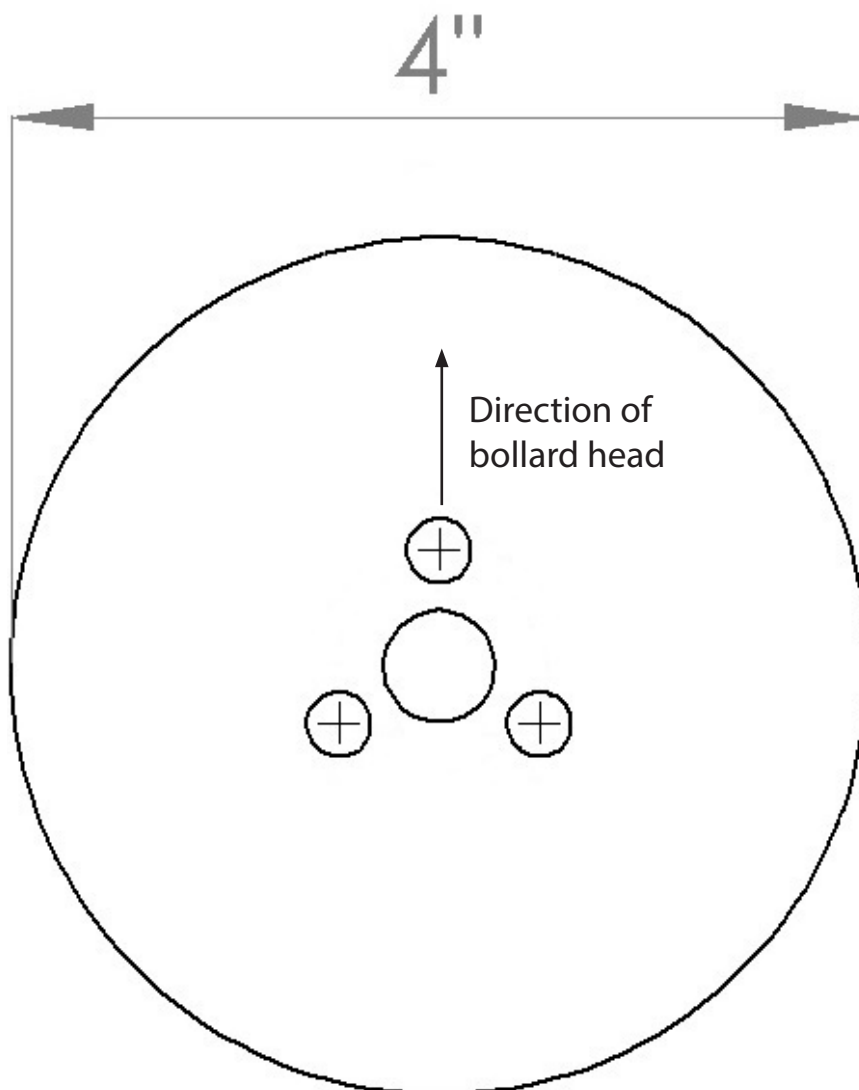

Fig. 1
2. Install a 12VAC output magnetic transformer in an accessible location, and run low voltage outdoor power cable (A) from the transformer to the desired bollard location in accordance with local codes. To avoid excessive voltage drop, you must use power cable with appropriate wire gauge for the distance and load of your system. The bollards can accept an input voltage from 10 to 15VAC.
3. **For Concrete Mounting:** Using the provided temporary template (Fig. 1), cast the anchor bolts (B) and low voltage outdoor power cable (A) into a concrete footing (C). Arrange the anchor bolts so that they are vertical and form an arrow pointing in the desired direction of the fixture (D), with at least 1/2" of threaded and no unthreaded length exposed above the concrete. Arrange the power cable so that it is in the center of the template, with at least 6" of cable exposed above the concrete.
4. **For Concrete Mounting:** Once the concrete (C) has fully cured, remove and discard the template.
5. **For Concrete Mounting:** Place mounting plate (E) over the anchor bolts (B) and power cable (A). Secure with mounting nuts (F).
**For Wood Mounting:** Place mounting plate (E) over the power cable (A) and secure with lag screws (not included).
6. Make appropriate electrical connections using outdoor wire nuts (G):
- c. Carefully place the conductors and connections into the post (H).
7. Place the post (H) over the mounting plate (E). Secure with mounting screws (J).
8. Install the cap (K) to the top of the fixture (D). Secure with the cap screws (L) using the included Allen wrench (M).